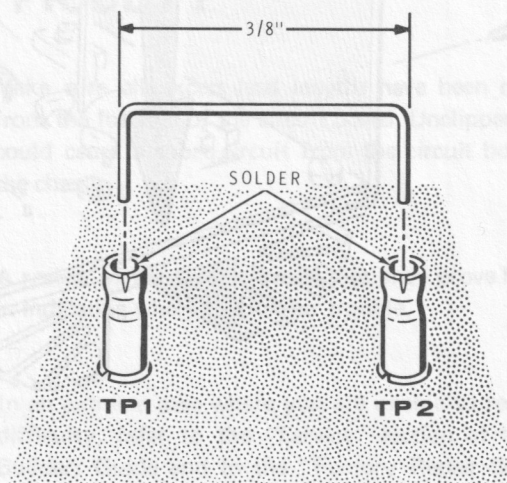

Figure 2-15
- ( ) Refer to Figure 2-15 and cut a capacitor lead (laid aside earlier) to 5/8". Bend the ends down to form a U-shaped connector. Place the ends in connector pins TP1 (S-1) and TP2 (S-1).